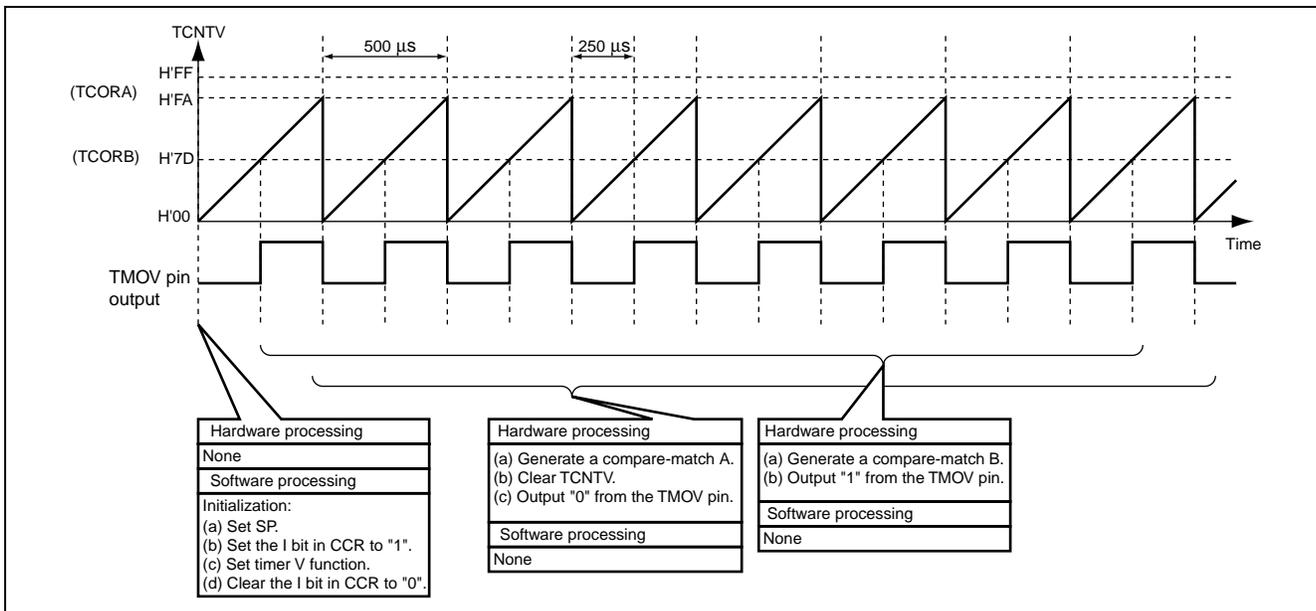

Figure 3.1 Operational Principle for TMOV Pin Output
1. Figure 3.1 shows the principle of operation for the TMOV-pin output. As the figure shows, pulses are output at 2 kHz from the pin through a combination of hardware and software processing.